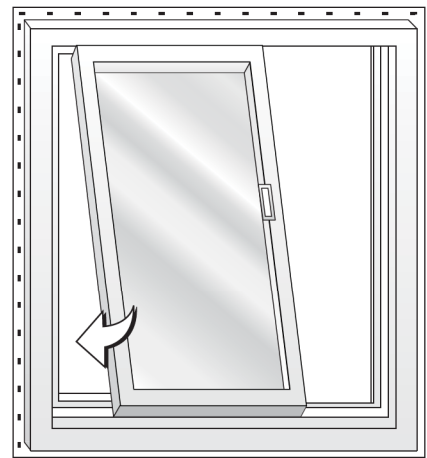

Figure 7
1. Insert the operable panel into the head track where it would be in the fully opened position (the same side as the fixed panel). Rotate the sill end of the panel over the frame sill and lower it into the roller track (figure 7). Make sure the panel rollers are properly seated on the roller track.